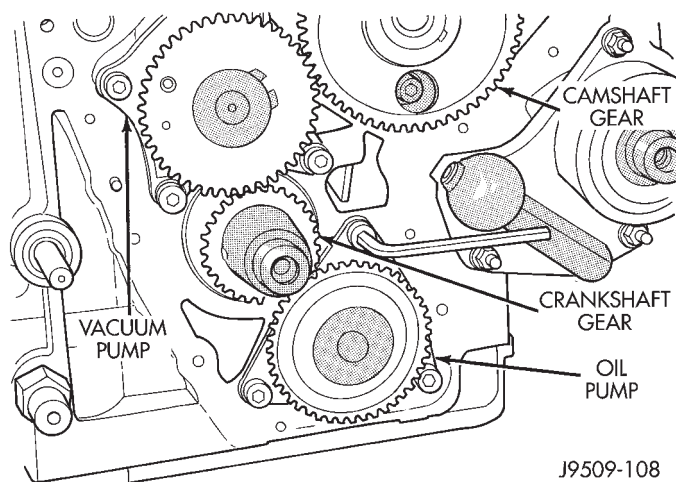

Fig. 35 Oil Pump Removal
(1) Remove front cover, (refer to front cover removal in this section).
(2) Remove oil pump (Fig. 35).